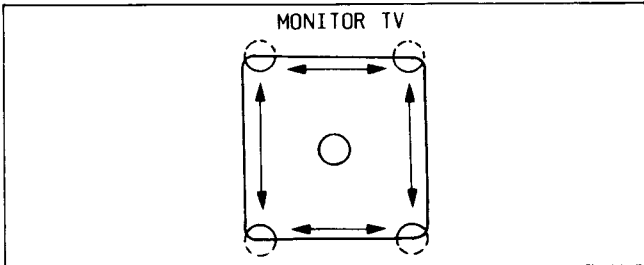

Fig. C7-2
- (2) Set the High Speed Shutter SW to "ON" portion.
- (3) Connect a jumper wire between TP10 and TP11 to fully open the iris.
- (4) Adjust the Blooming Control (VR201) so that the monitored picture does not contain the Blooming.
- (5) High Speed Shutter "ON" and "OFF" both mode, confirm that the monitored picture does not contain the Blooming even if the camera moves as shown in Fig. C7-2.